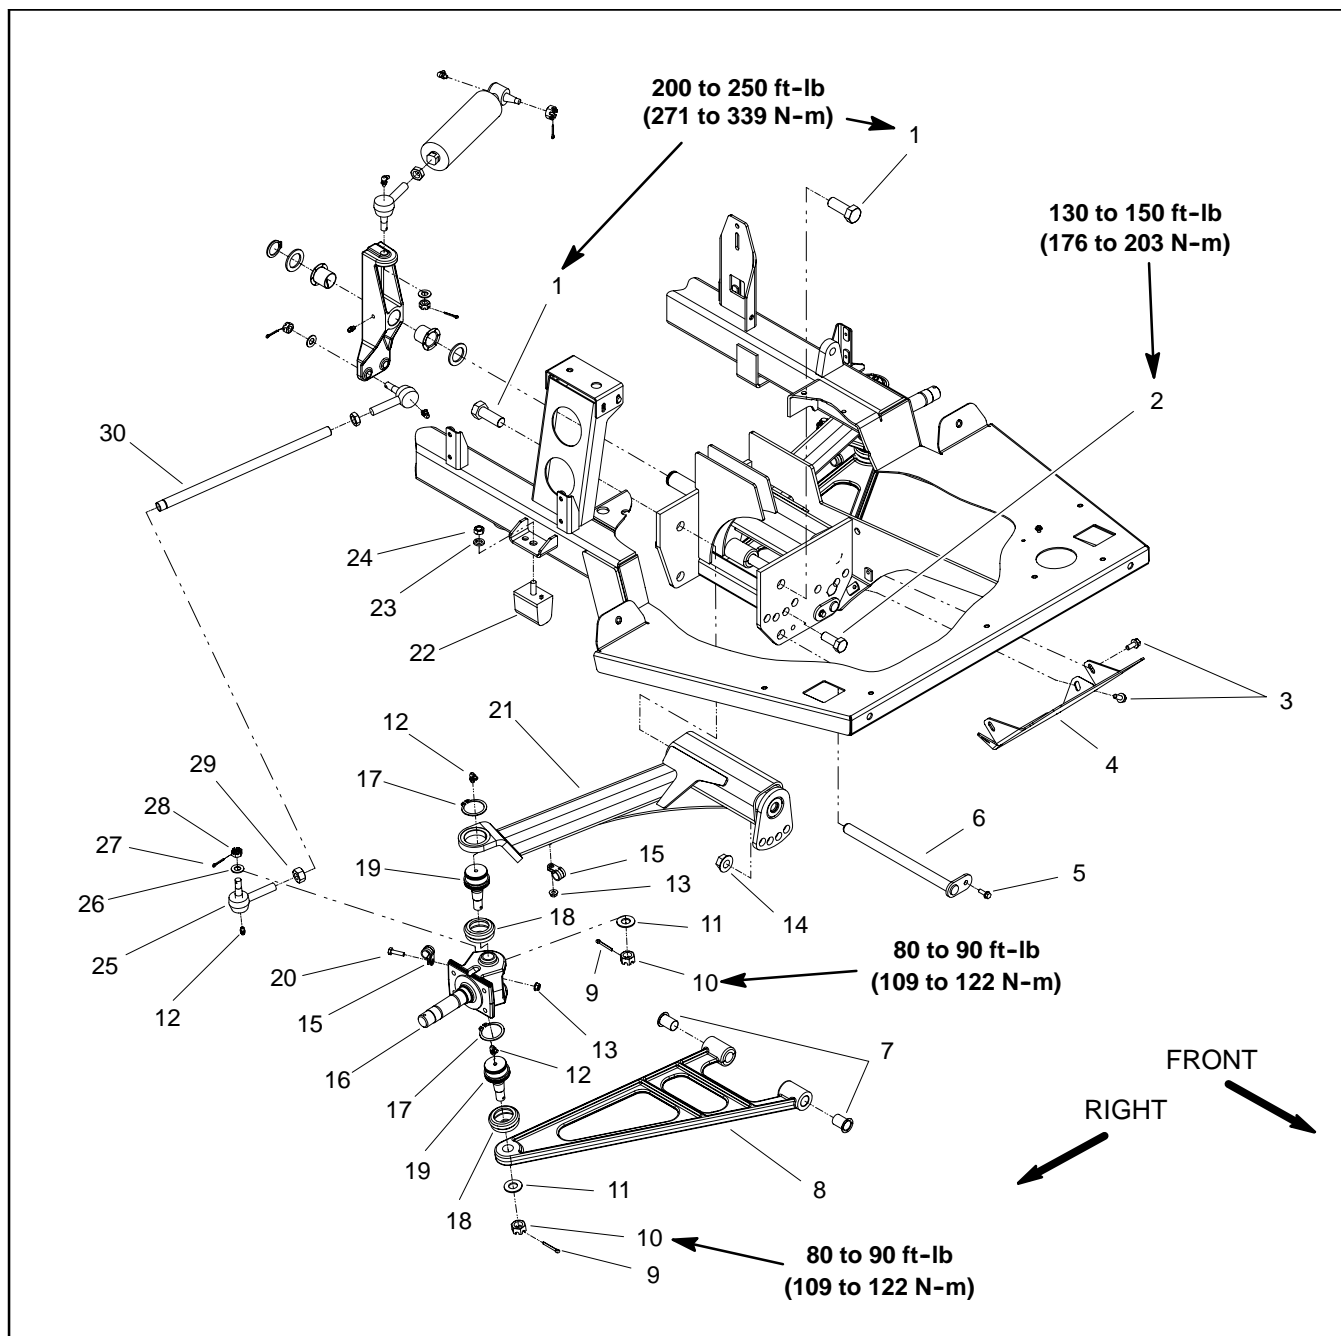
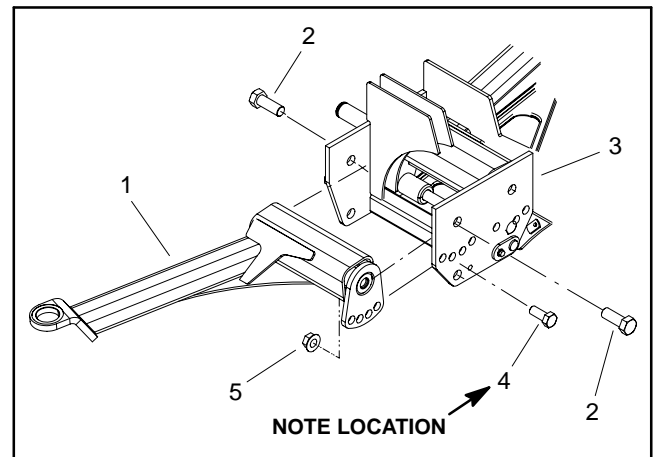

Figure 14
Figure 15
Disassembly (Fig. 14)
5. Disassemble suspension as needed using Figure 14 as a guide.
A. During disassembly, note position of cap screw in torque arm of axle assembly for assembly purposes (Fig. 15).
Assembly (Fig. 14)
1. Assemble suspension using Figure 14 as a guide.
- A. Loosely install cap screws (item 1) that secure axle assembly to machine frame.
- B. Install cap screw (item 2) in noted location of axle assembly torque arm (Fig. 15). Torque cap screw from **130 to 150 ft-lb (176 to 203 N-m)**.
- C. Torque cap screws (item 1) that secure axle assembly to machine frame from **200 to 250 ft-lb (271 to 339 N-m)**.